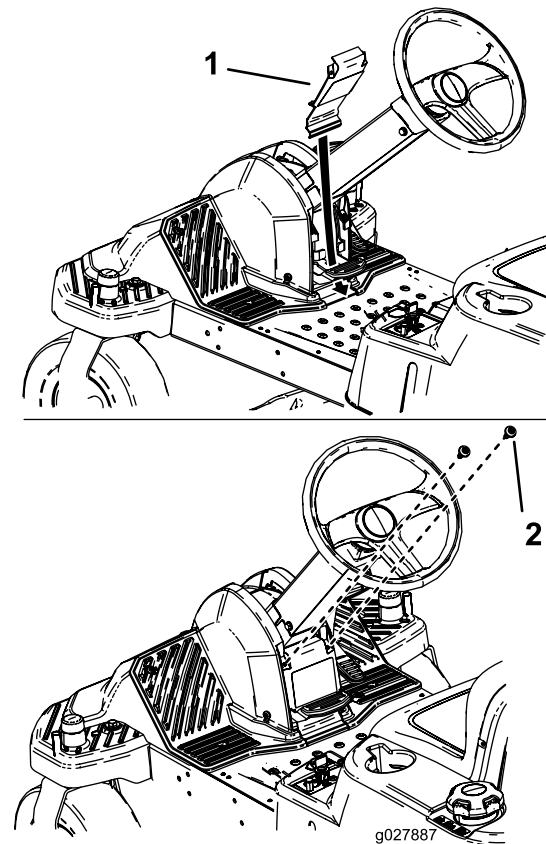

Figure 5
2. Position the steering wheel as shown in Figure 5.
6. Install the rear cover to the back of the footrest with the tabs at the bottom inside the footrest and the 2 screws in the top (Figure 5).